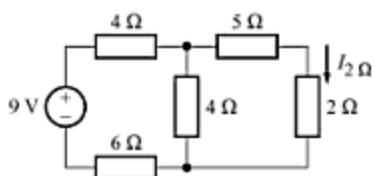

Fig. A-77
- A-36. Use Thevenin's theorem to determine the current *I*_{2Ω} in the circuit of Fig. A-77.